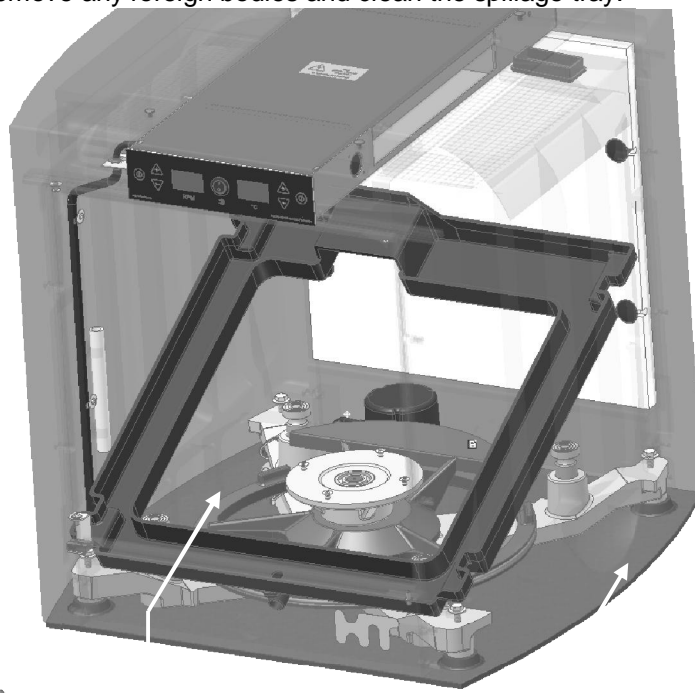

Fig. 11: First lift the spillage tray up at the back and then at the front.
- Remove two crosshead screws on the ceiling of the chamber, near the fan, see. Fig. 11.